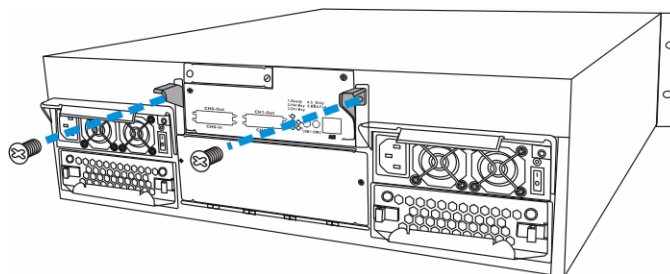

Fig. 6.5 Installing the Controller Module Screws
5. Secure the controller module to the subsystem. Install the two (2) screws on the levers to secure the controller module in place. (See *Figure 6.5*)